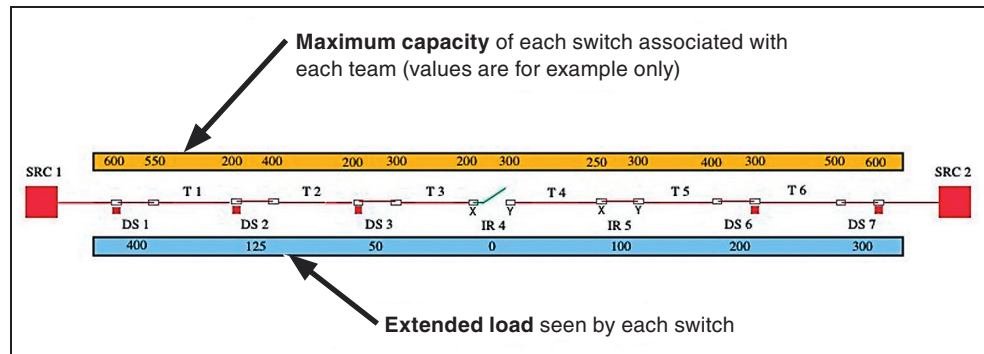

Figure 15. The maximum capacity and extended load seen by each switch.
This example uses the **Maximum Capacity** and **Extended Load** values in Figure 15.
- STEP 1.** At switch DS7 in Figure 15, use the maximum capacity configured for the team on the downstream side of switch DS7, team T6. Switch DS7 is configured for 500 A on the team T6 side. Subtract the extended load seen by switch DS7 from the maximum capacity: $500 - 300 = 200$ A of available source SRC2 capacity. Team T6 has 200 A real capacity.